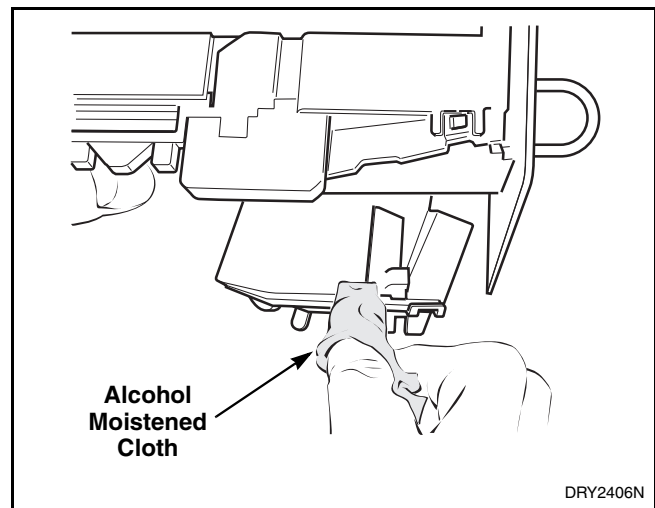

Figure 29
- e. Clean residue from coin rail with an alcohol moistened cloth. Refer to *Figure 29*.